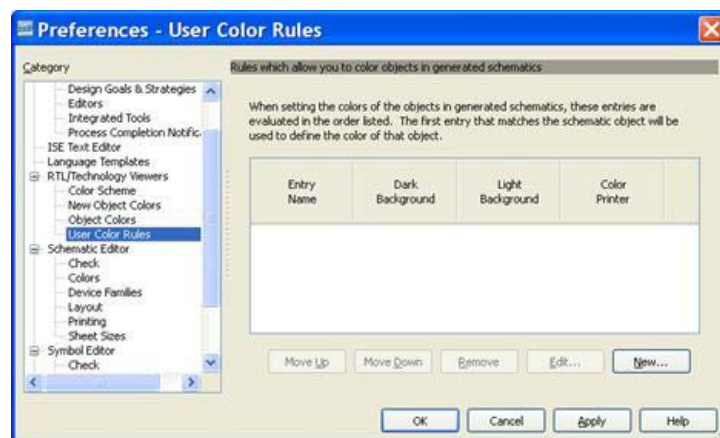

Figure 7-8: **Preferences Dialog Box**
2. Under the RTL/Technology Viewers category, select the **User Color Rules** sub-category as shown in Figure 7-8. This is where we can define specific color rules for our needs.